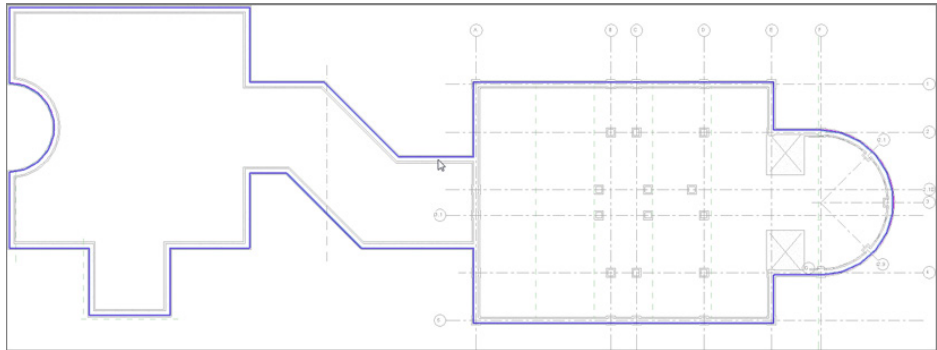

FIGURE 18.22 : Place the pad 1" (25mm) to the outside of the wall.
10. Set Offset to 1" (25mm) on the Options bar, and pick walls to place the pad against the outside of the foundation wall underneath the entire model, as shown in Figure 18.22. Trim the sketch lines as necessary.